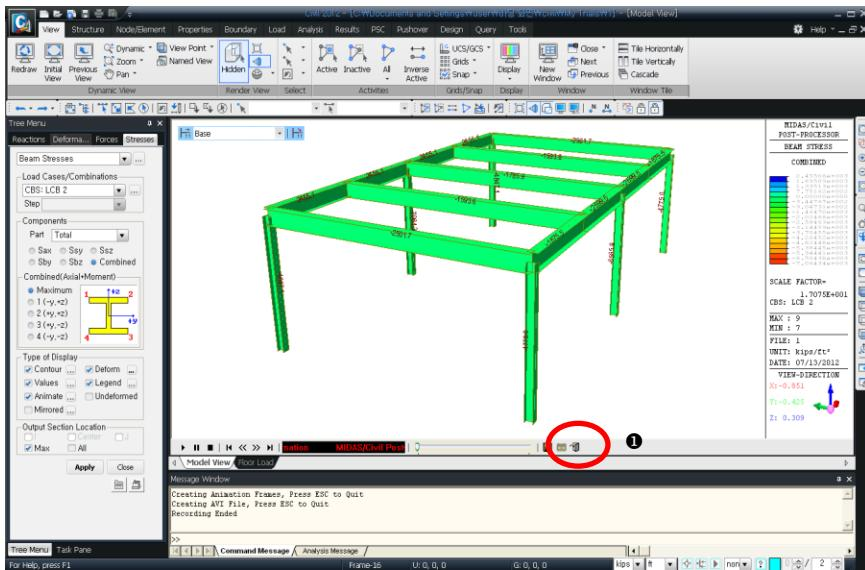

Figure 1.37 Animation Window
7. Click  **Record** as shown in Fig.1.37–①.
Once the above procedure is completed, wait a while. The animation reflecting the effects of combined stresses and deformed shapes appears on the screen as shown in Fig.1.37.
1. Click **Close** shown in Fig.1.37-①.
4. Click the **Element Number** field once, then select element **11** in the **Model View** window (Fig.1.37).